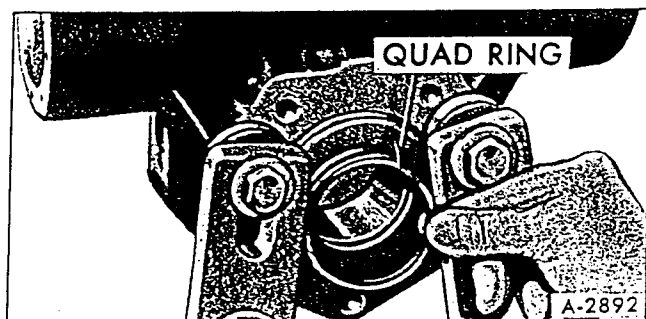

Figure 21 – Removing Quad Ring from Housing
16. Remove seal (quad ring) from output shaft bore of housing (fig. 21).